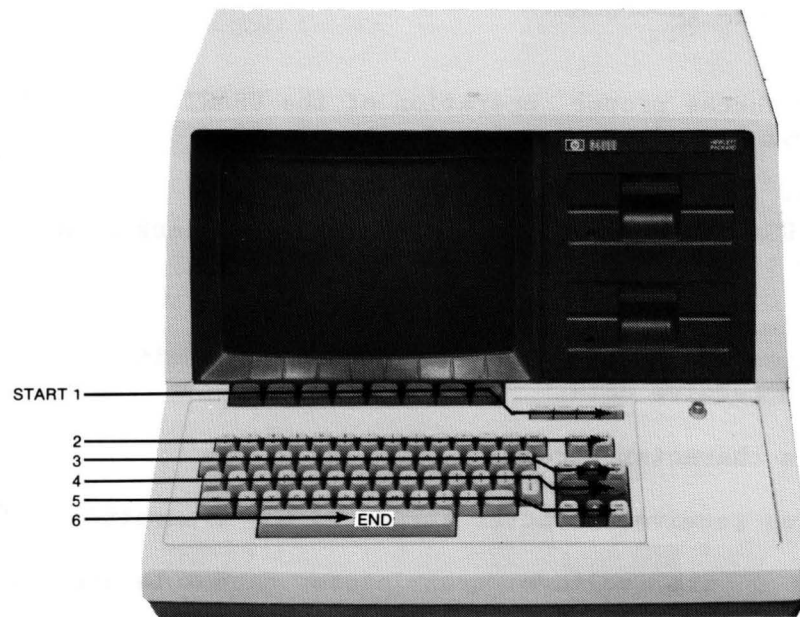

Figure 4-4. Keyboard PV Test Sequence.
- e. The order in which the keys are pressed is given below in figure 4-4.